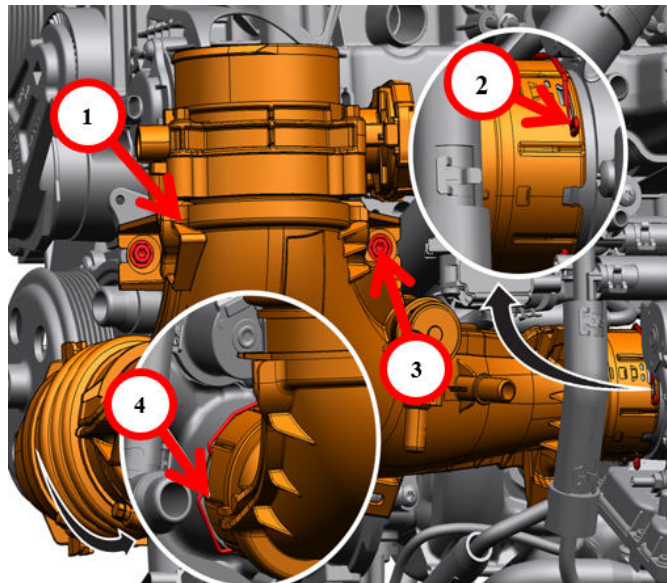

Fig. 3
9. Release the clean air tube retaining lock on the rear turbocharger Fig. 3.
10. Release the intake air tube retaining lock on the front turbocharger Fig. 3.
11. Remove the clean air hose tube bolts and the clean air hose Fig. 3.